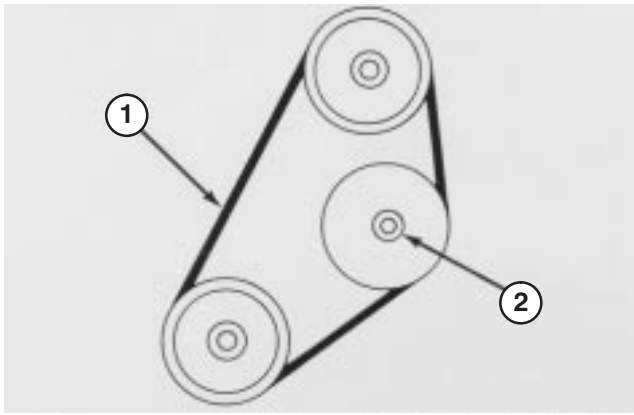

Figure 47
3. Belt should deflect 1/4 in. (6 mm) midway between the pulleys with 5 lb force (22 n) (Fig. 47). If deflection is incorrect, proceed to step 4. If correct, proceed to step 5.
4. Loosen locknut securing idler pulley (Fig. 47). Push idler pulley against belt until proper deflection is achieved and tighten idler pulley locknut (Fig. 47).
2. Loosen locknut securing idler pulley, slide pulley away from belt, and remove belt from top and bottom pulleys (Fig. 47).
3. Install new belt and adjust for proper tension. Push idler pulley against belt until belt deflects 1/4 inch (6 mm) with 5 lb force (22 N) midway between top and bottom pulley locknut to secure adjustments (Fig. 47).